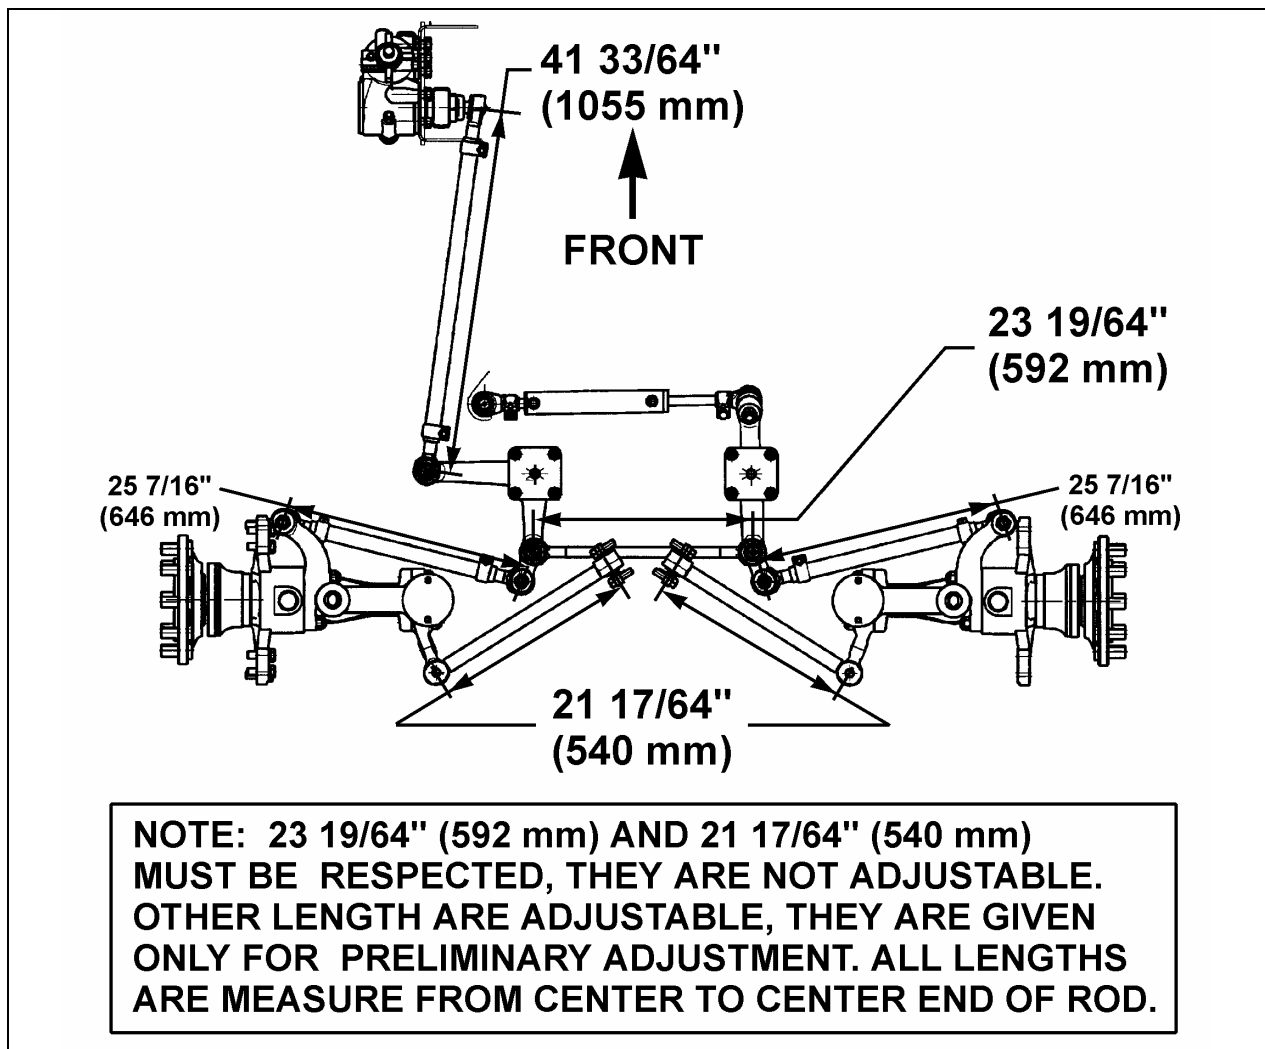

FIGURE 23: STEERING LINKAGE MEASURE
7. Check if the length of the torque rod is 21 17/64" (540 mm) (Fig. 23). Check if the length of the relay rod is 23 19/64" (592 mm)
ALIGNMENT SPECS (See Figure 23)